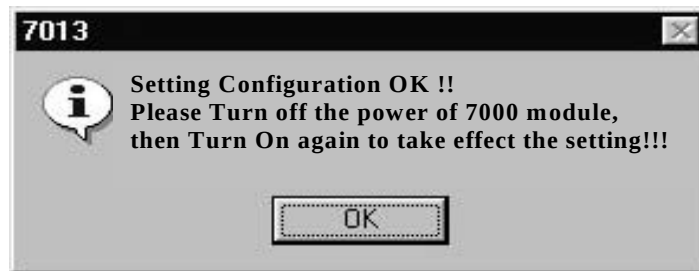

Figure 2-22. Setting Configuration OK!!
3. The 7000 Utility displays the window as Figure 2-22. If the message “Please connect Init* to GND. Then Click OK button again!!!” is displayed, connect Init* terminal to the GND terminal.